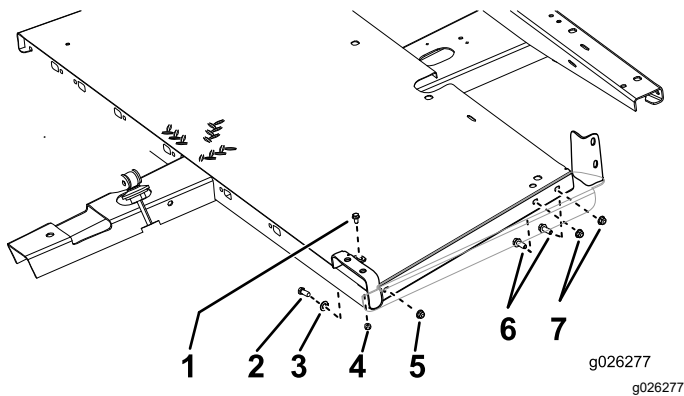

Figure 4
1. Secure the floor panels to the frame as shown in Figure 4.